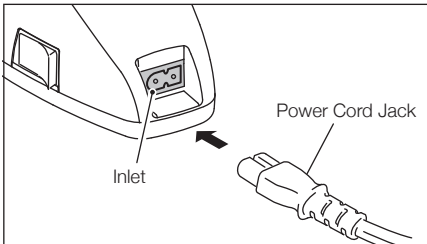

Fig. 4
1. Insert the Power Cord Jack into the inlet at the back of the Battery Charger. (Fig. 4)